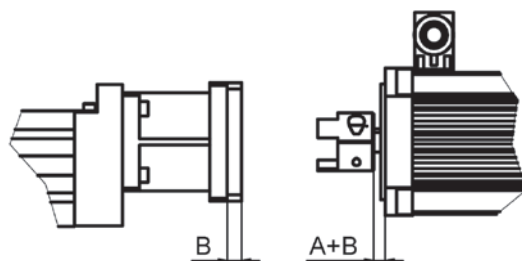

Figure 3.14 \_\_ Mounting dimension
1. Insert the coupling hub **2** on the drive or gearbox shaft. The dimension A (Figure 3.14) from Table 6.24 in Chapter 6.2.4.2 and dimension B when using an optional intermediate flange **5**, should be considered.